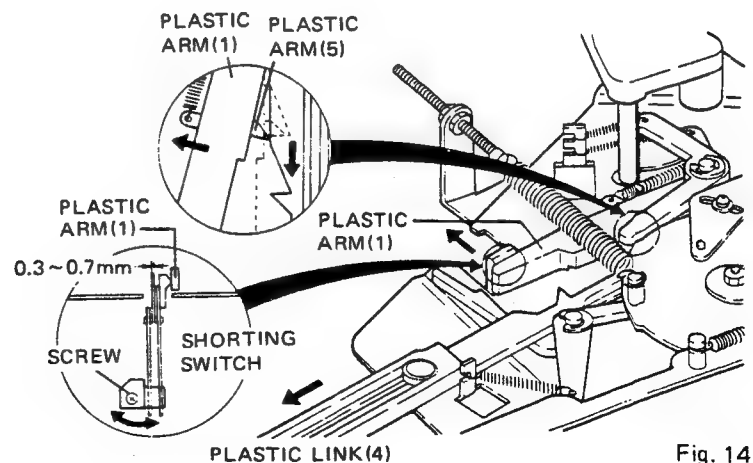

Fig. 14
2. Confirm that the plastic arm (5) is at the position shown in Fig. 14. If necessary, pull plastic link (4) so that (5) moves to this position.
3. Loosen the screw fixing the shorting switch contacts so that no gap remains between plastic arm (1) and the molded portion of the switch assembly.